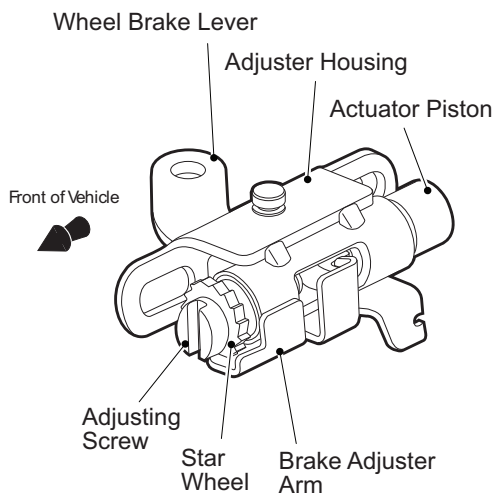

Fig. 14 .Adjuster Mechanism
- Observe the brake adjuster arm and note if the arm engages the star wheel and attempts to rotate it (Ref Fig. 14)